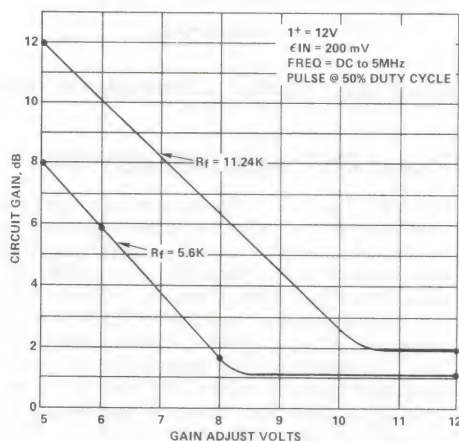

Figure 9 - Plot Of AGC Circuit Gain Versus Control Voltage
In experimental tests with typical devices, the amplifier gain could be varied from 12dB to 2dB as the dc control voltage was changed from 5.0 to 10.5Volts. Typical plots of stage gain (A_V) versus control voltage (V) are shown in Figure 9.